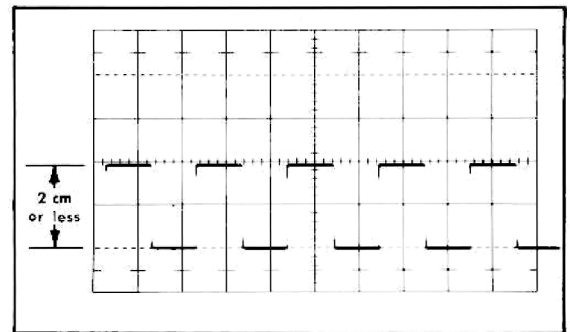

Fig. 5-2. Checking the VARIABLE control 2.5:1 ratio. This display is within the 2-cm maximum amplitude requirement.
g. Check—Display amplitude is 2 cm or less (attenuation ratio 2.5:1 or more) and the UNCAL neon indicator is lit. See Fig. 5-2.